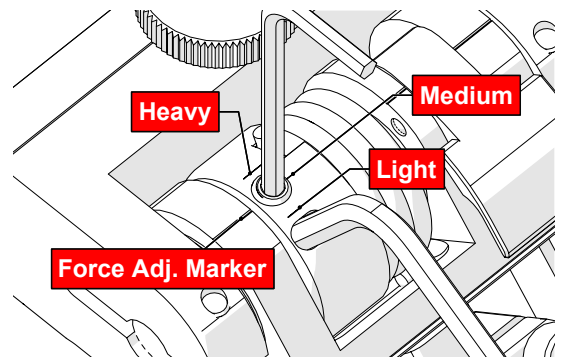

Fig. 59 - Choose desired tension
6. Gently apply pressure on the long leg of the 3 mm hex wrench until the force adjustment marker lines up with the desired spring tension. While keeping the markers in line, tighten the force adjustment screw (Fig. 59).